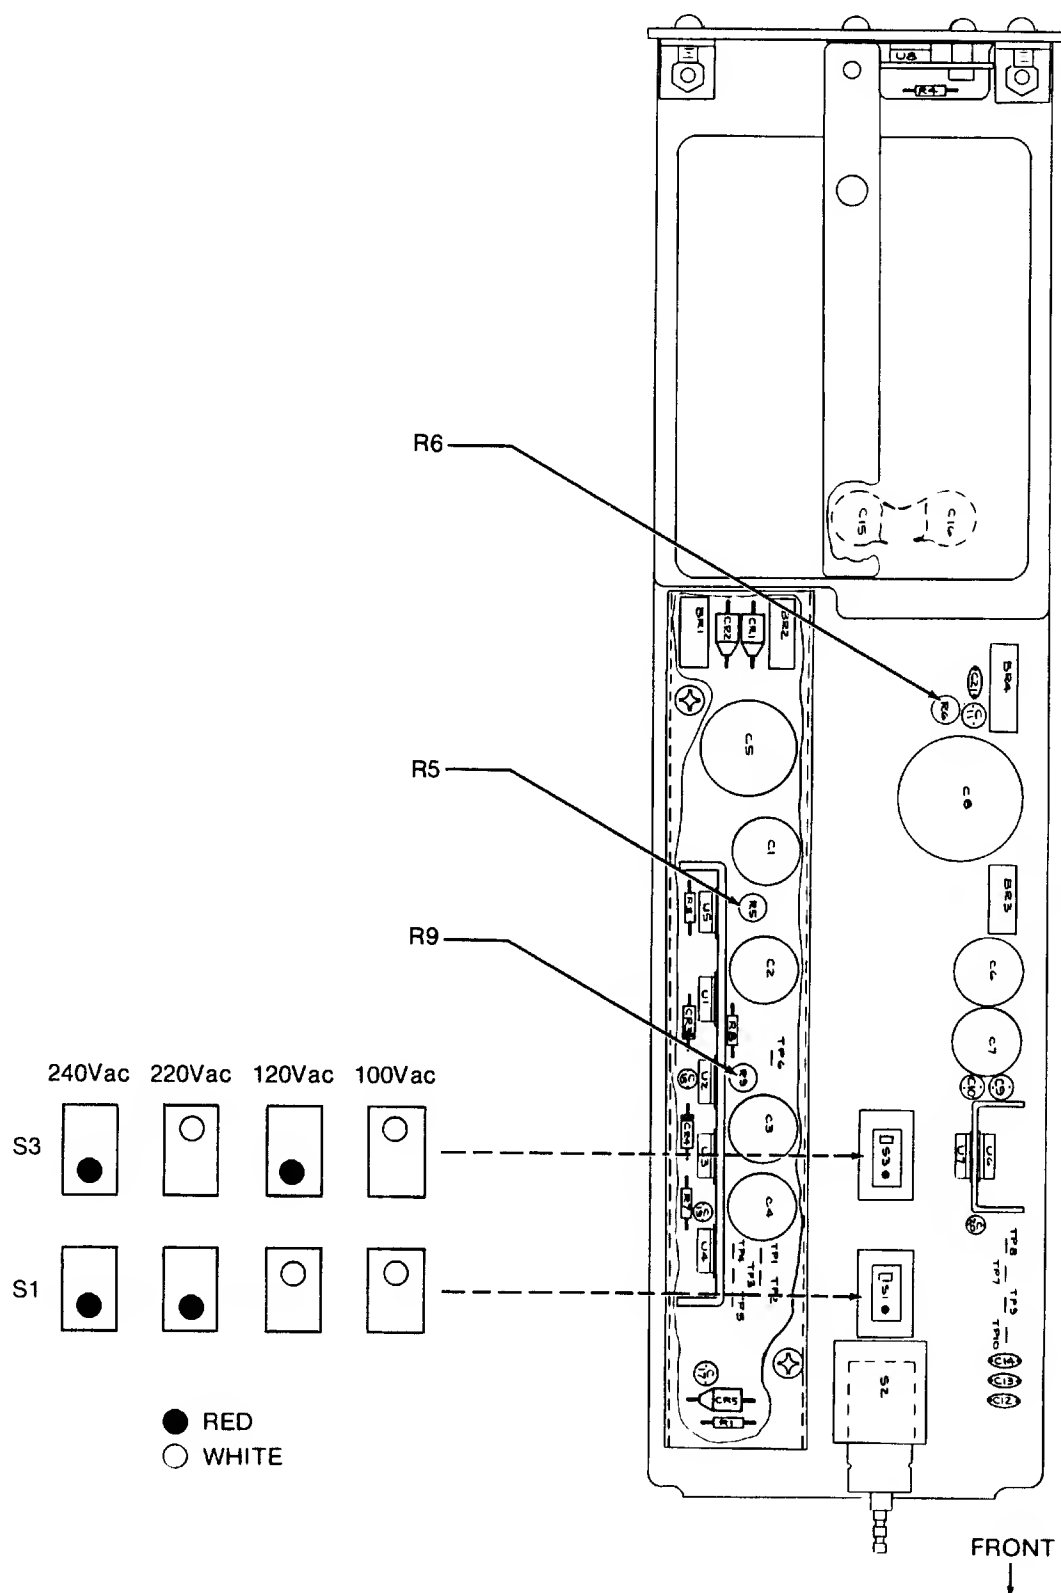

Figure 4-1. Power Supply Settings
3. The Line Voltage Selection switches are located in the left front of the instrument, just behind the main power control. Referring to Figure 4-1, set these two switches to indicate the desired line voltage (dot/switch pattern).